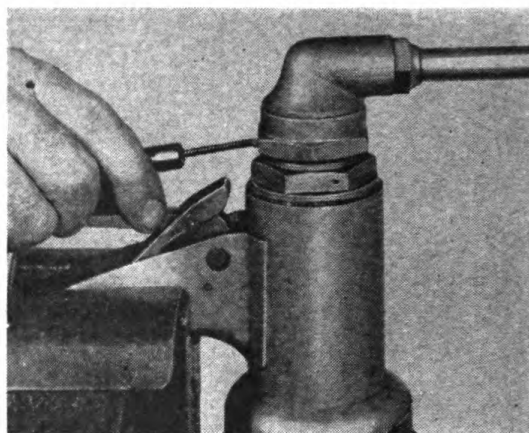

Figure 203
(1) Loosen swivel retainer nut set screw (See Figure 203).